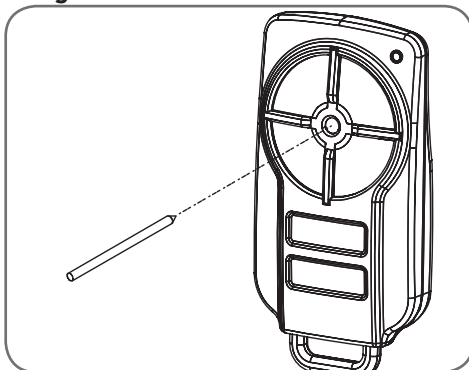

Fig. 8.5
- Using a small needle / pen, press and hold firmly for two seconds the middle button, through the Coding Hole (**Fig. 8.5**).
- Within ten (10) seconds take the additional transmitter you wish to code. Hold the new transmitter's button for two seconds, pause for two seconds, hold again for two seconds and then release.
- Wait for ten (10) seconds and then press the new transmitter's button to test.